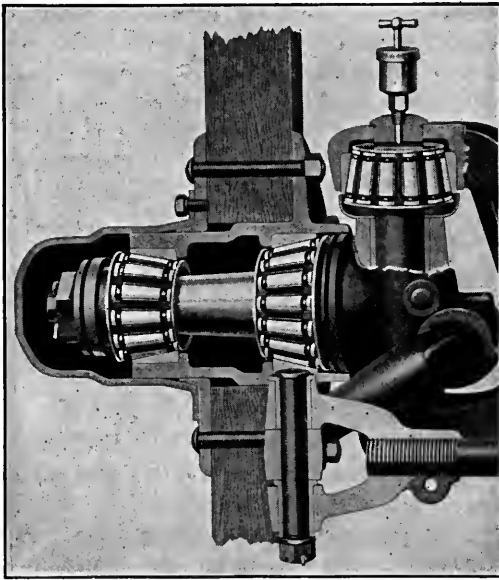

FIG. 110.—Timken roller bearings. As used in the front wheel of an automobile.
6. Four men raise an anchor weighing $1\frac{1}{2}$ tons, with a capstan (see Fig. 110) having a barrel 9 in. in diameter. The circle described by the hand-spikes is $13\frac{1}{2}$ ft. in diameter. How much force must each man exert?
(b) In Fig. 109 the friction between *R* and *S* would be greater than between *R* and *T*. In *R* and *S* the surfaces will fit closer together than in *R* and *T*. The use of different materials will reduce friction. The iron axles of car wheels revolve in bearings of brass. Jewels are used in watches for the same reason. (c) Another very common method of reducing friction is by the use of *lubricants*. The oil or grease used fills up the irregularities of the bearing surfaces and separates them. *Rolling friction* is frequently substituted for sliding friction by the use of ball and roller bearings. These are used in many machines as in bicycles, automobiles, sewing machines, etc. (See Fig. 110.)